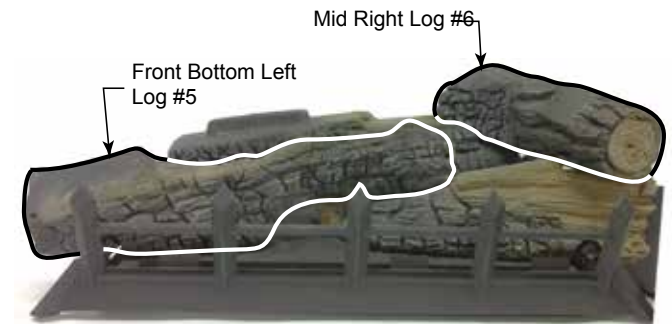

Figure 30
5. Place front bottom left log (#5) on left pin located on burner and left grate bar. The right side of the log should rest on log #4. *Figure 30*
6. Place mid right log (#6) on bottom rear log (#1) and front bottom right log (#4) by placing notch on bottom of log on locating block on log #1. Place front of log in notch of log #4. *Figure 30*